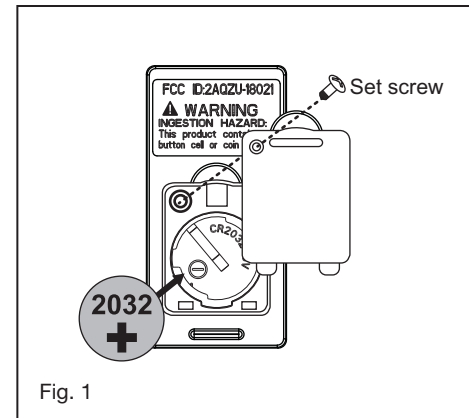

Fig. 1
- 1 Remove ball from downrod by loosening set screw in the side of the ball. Slide ball down and remove ball pin; remove ball. (Fig. 1)
- 1 Select a desired location. Use the wall plate to mark the location of the mounting holes. Plastic wall anchors or mounting screws are needed for this application. (Fig. 1)
Remove the panel from the transmitter and then install one 2032 battery (included). You need to use a screwdriver to open or close the battery cover. To prevent damage to transmitter, remove the battery if not use for long periods of time (Fig. 1)